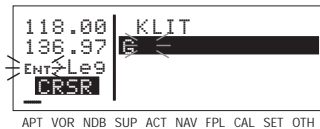

Figure 4-168
2. With the right inner knob, select the desired character, if any, and move the cursor to the next character on the line (figure 4-168).